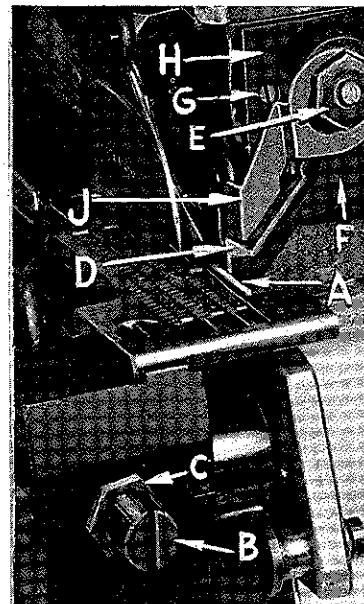

Fig. 13
Replace lower knife holder assembly. Lower knife (A, Fig. 13) should be set with cutting edge flush with throat plate surface. Adjustments are made with hexagonal head screw which holds lower knife. Lower knife is spring pressed against upper knife, so no lateral adjustment is necessary when width of trim is changed.
Replace upper knife assembly. Clamp upper knife (D, Fig. 13) in position, setting nut (E) to hold clamp (F) in its most clockwise position against upper knife. At bottom of its stroke, front cutting edge of upper knife should extend not less than  $1/64$  inch below cutting edge of lower knife. The chain guard (J) should be set down against the upper knife and slightly back from the cutting edge.